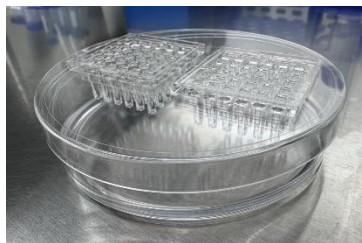

Figure 1. Hydration of the pillar plate surface in a 100 x 20 mm petri dish with 5 mL of sterile, distilled water to minimize air bubble entrapment.
- Hydrate the surface of the pillar plate by inserting two 36PillarPlates into a 36PetriLid placed on a 100 x 20 mm petri dish containing 5 mL of sterile distilled water. Incubate the assembly in a humidified 5% CO₂ incubator at 37°C for 30 minutes prior to hydrogel loading (**Fig. 1**).
cells in Matrigel-alginate into a 36PetriLid placed on a 100 x 20 mm petri dish containing 5 mL of sterile, distilled water (**Fig. 1**).